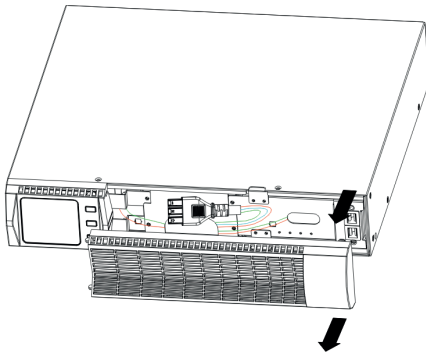

FIG 11: Removing the EBP Front Cover
2. On the bottom of the UPS front cover, remove the EBP cable knockout (see FIG. 11).